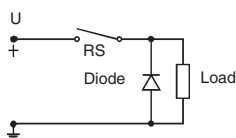

Fig. 1
Contact protection is relatively simple for direct current (DC). A free-wheel diode is wired parallel to the load. Polarity must be established in such a way that the diode will inhibit at normal operational voltage (current) and short-circuit the power peaks which occur in the opposite direction when the switch opens. (see fig. 1).